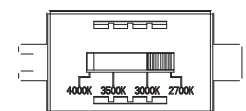

Fig.2 Wiring
### CONNECTING THE WIRES (Fig. 2, 3)
9. Connect the driver's input wires to junction box wires as shown in Fig. 2, make sure that all wire connectors (A) are secured. If your outlet box has a green or bare copper ground wire, connect the fixture's ground wire to it. Otherwise, connect the fixture's ground wire directly to the mounting plate using the screw provided. After wires are connected, tuck them carefully inside the junction box.